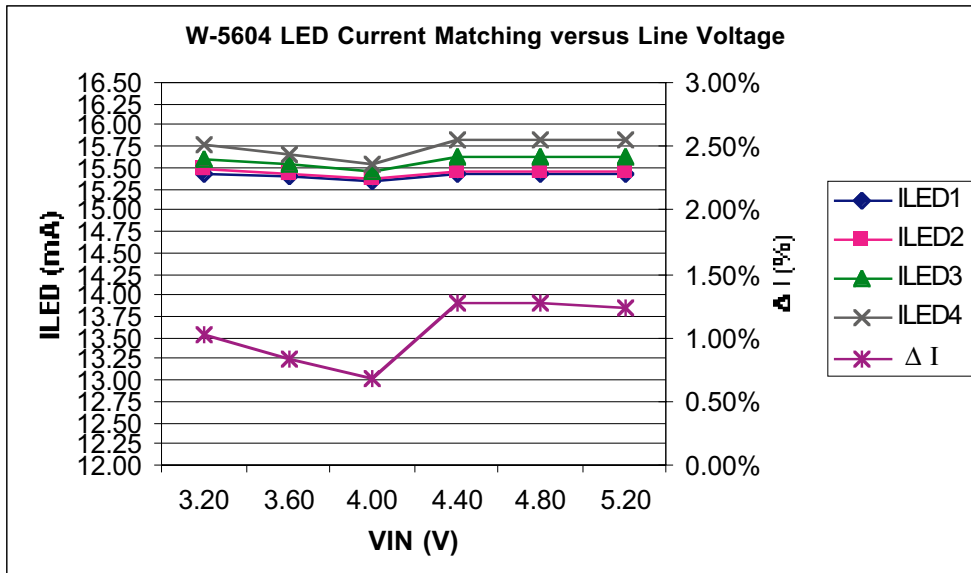

Figure 4. LED to LED Current Matching versus Line Voltage, 4 LEDs @ 15mA
Figure 4 shows the LED current regulation versus input voltage for all 4 LEDs and the LED to LED current matching (DI).